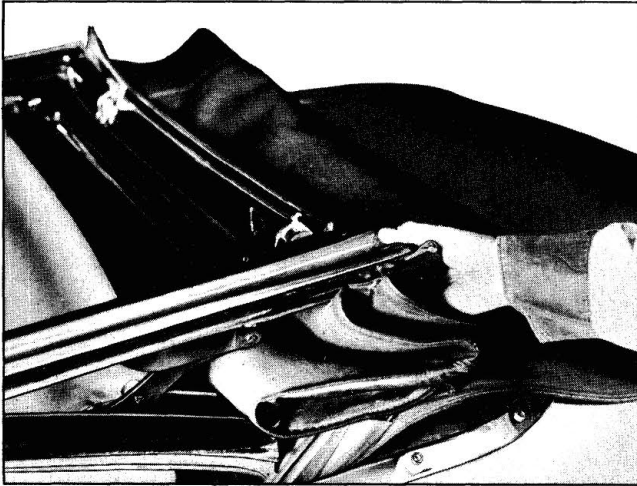

Fig. 22-17 Rotating Top Forward
B. Standing along side of car, grasp front corner of folding top as shown in Fig. 22-17, lift and rotate top forward.